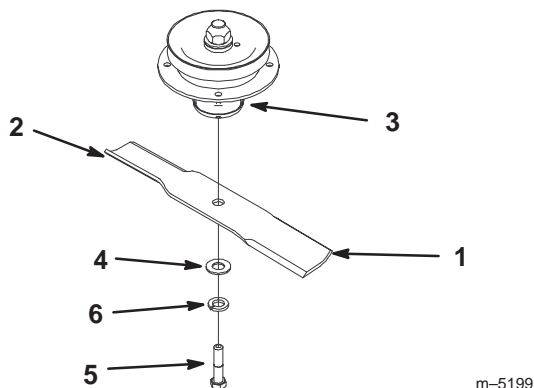
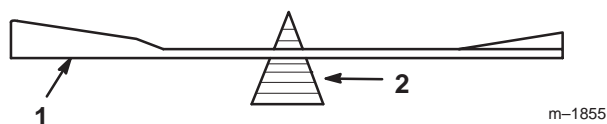

Figure 40
Figure 42
1. Hold the blade end using a rag or thickly-padded glove. Remove the blade bolt, washer, lock washer and blade from the spindle shaft (Fig. 40).
2. Check the balance of the blade by putting it on a blade balancer (Fig. 42). If the blade stays in a horizontal position, the blade is balanced and can be used. If the blade is not balanced, file some metal off the end of the sail area only (Fig. 40). Repeat this procedure until the blade is balanced.
1. Install the blade onto the spindle shaft (Fig. 40).
Important The sail part of the blade must be pointing upward, toward the inside of the mower to ensure proper cutting (Fig. 40).
2. Install the washer, lock washer and blade bolt (Fig. 40). Torque the blade bolt to 85–110 ft-lb (115–140 N•m).